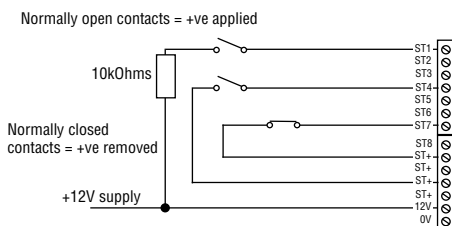

Figure 5. Example Input Connections
2. Connect the triggering signals to the terminals marked ST1 to ST8 (ST4 on the 8440). Figure 5 shows examples of how to wire the inputs for the 8400 and 8440.